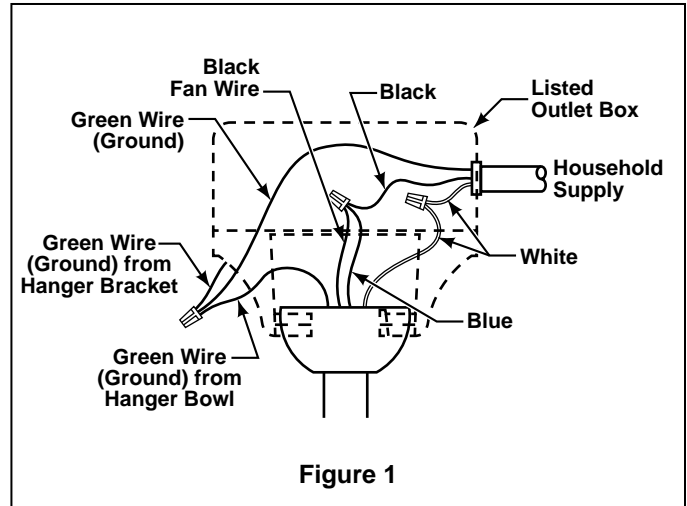

Figure 1
The fan must be hung with at least 7' of clearance from floor to blades (Figure 1)
2. Securely connect the white fan motor wire to the white supply (neutral) wire using wire connector supplied. Securely connect the black fan motor wire and blue wire to the black supply wire using wire connector supplied (Figure 1). After connections have been made, turn leads upward and carefully push leads into the outlet box, with the white and green leads on one side of the outlet box and the black and blue leads on the other side of the outlet box.
1. Screw in two threaded rods into the Hanger Bracket (Figure 1).
1. Remove and discard the (rubber) motor “stops” by removing the four screws. (Figure 1)